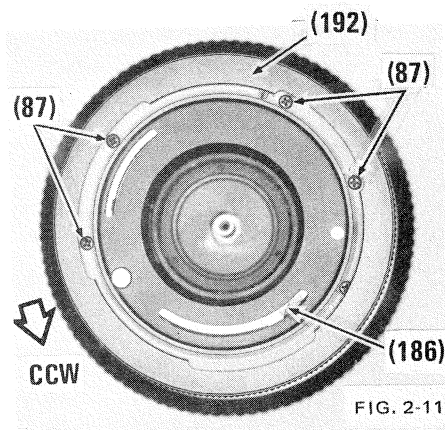

FIG. 2-11
b) Set auto/manual ring (186) to the manual aperture position (fully counter-clockwise position and detented). Fig. 2-11.
c) Rotate locking ring (192) fully counter-clockwise; remove four mount screws (87). Fig. 2-11.